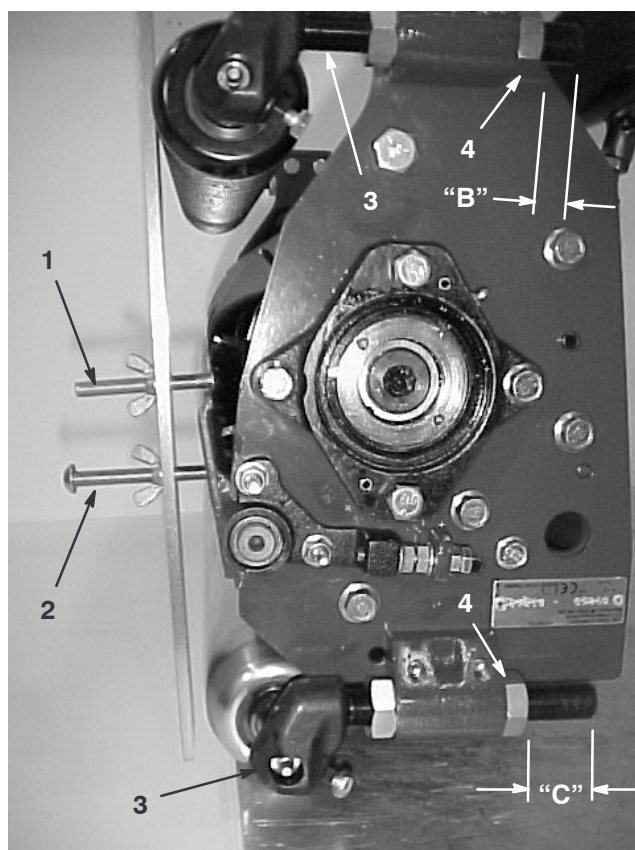

Figure 8
3. Set the front height-of-cut rod height, "B," using the dimension given in **Table 1**. This measurement is between the top surface of the height-of-cut rod and top cone nut (Fig. 8).
4. Set the rear support casting in either the top or bottom location as indicated in **Table 1**. Set the rear height-of-cut rod height **.100" (3 mm)** less than the dimension given in **Table 1** which will create a gap between the rear roller and the gauge bar (Fig. 8).
Note: Place gauge bar across front and rear rollers. The first screw head should fit snugly over edge of bedknife and the end of second screw should contact bottom of bedknife (Fig. 8). If there is a gap between the front roller and the gauge bar or you can not put the gauge bar on, adjust the front roller until: (1) first (height-of-cut) screw fits snugly over bedknife, (2) second screw just contacts bedknife, and (3) gauge bar touches front roller. Verify front roller (attitude) at each end of the bedknife.